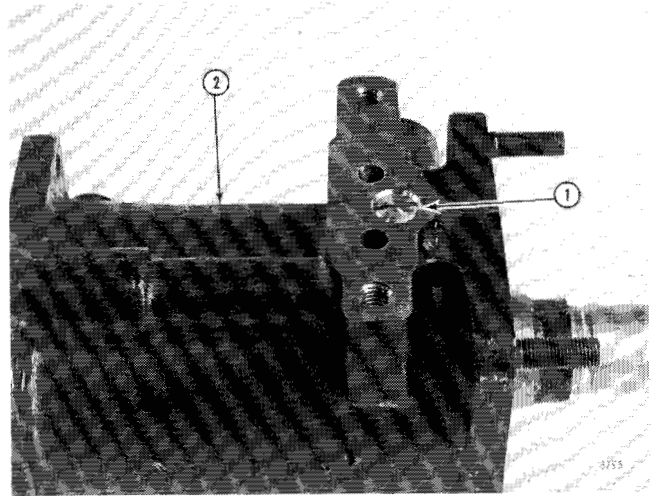

Figure 24
Remove plug (1, Figure 24) spring and relief valve from power booster (2). Remove O-ring from plug if necessary.